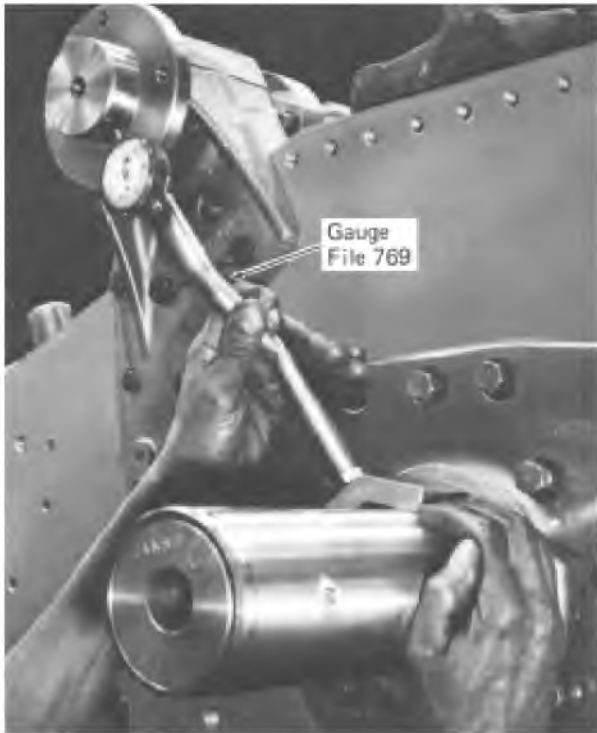

Fig. 7-7 - Idler Gear Stubshaft Bracket Alignment
10. Apply an idler gear stubshaft to camshaft stubshaft gauge (File 769), Fig. 7-7, and check the dimension between the No. 2 idler gear stubshaft and the left bank camshaft stubshaft making sure both stubshafts are wiped clean. Gauge must indicate less than 0.005 ".